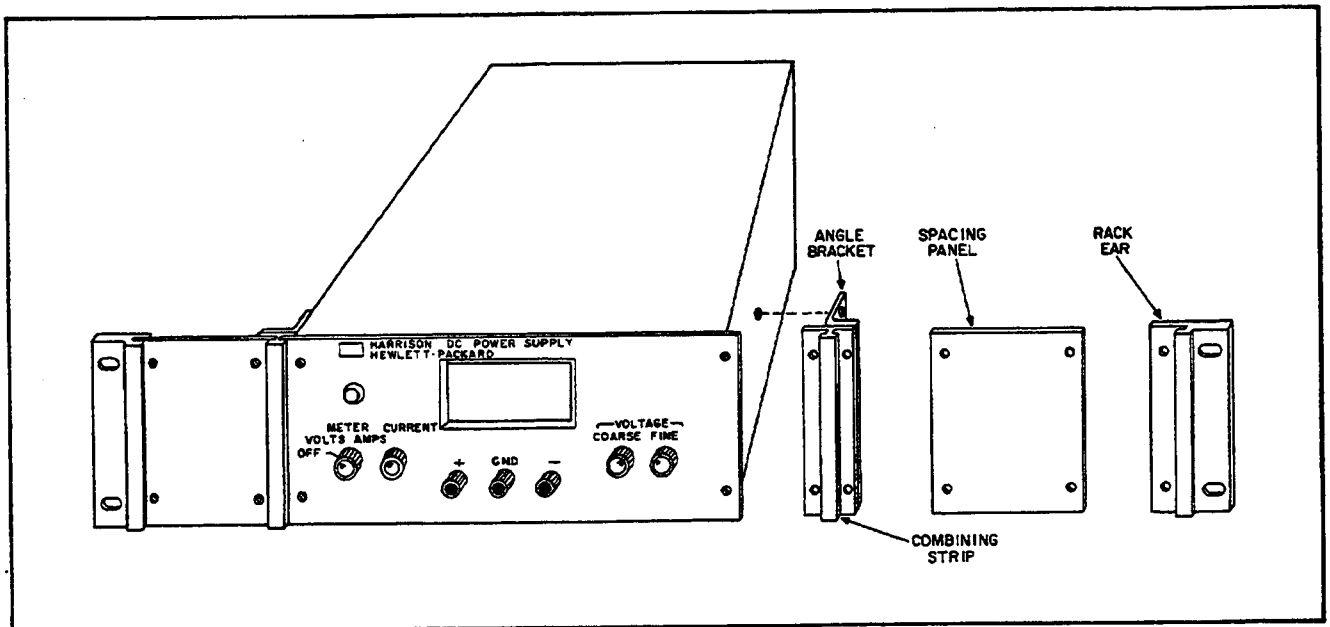

Figure 2-3. Rack Mounting, One Unit
- Bolt rack mounting ears, combining straps, and angle brackets to each side of center spacing panels. Angle brackets are placed behind combining straps as shown in Figure 2-3.